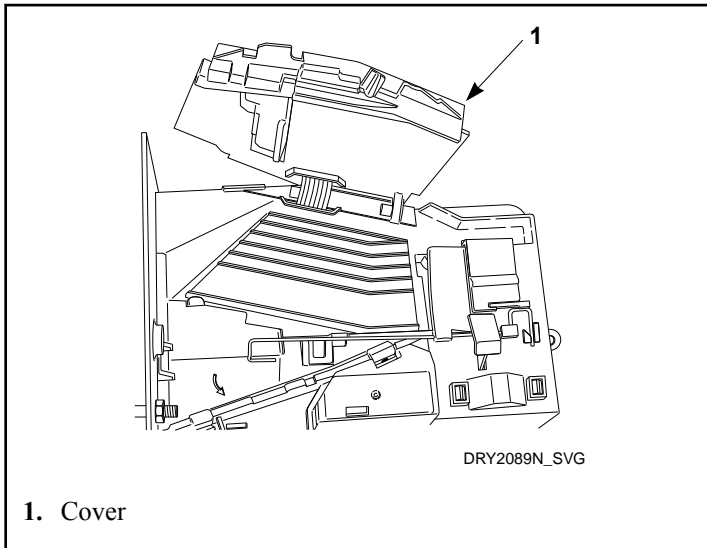

Figure 30
b. Open cover for coin drop. Refer to *Figure 30*.